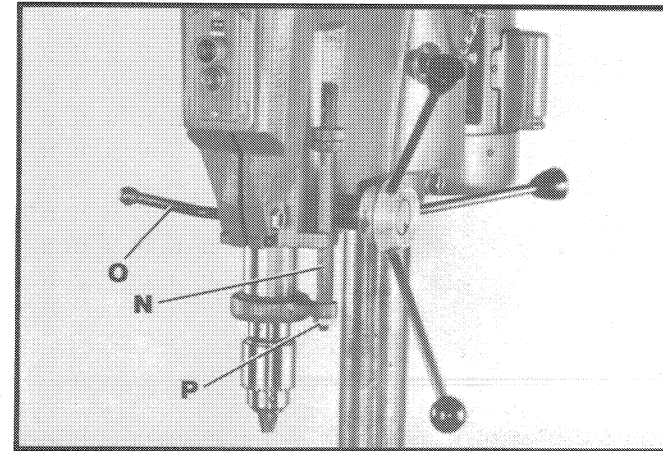

Fig. 9
FOR DELTA DRILL PRESSES AND COMPETITIVE MODELS WITH 4-5/16" TO 6" SPINDLE TRAVEL AND EQUIPPED WITH THE DEPTH STOP ROD (N) FIG. 9, ON THE RIGHT HAND SIDE OF THE HEAD CASTING, AS SHOWN.
8. Lower spindle approximately 2" and lock in place by tightening quill clamp hand lever (O) Fig. 9. Remove nut (P) and depth stop rod (N).